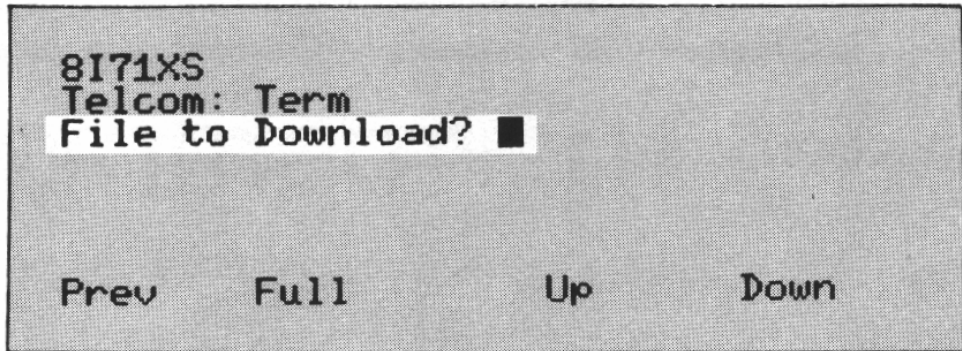

Fig. 9-6 Term's Download Request
**f-5 Down.** If you have established contact with another computer, you can store the incoming data into a .DO file by pressing the f-5 function key. As Figure 9-6 illustrates, you will be asked for a file name to assign to the information about to be received. A .DO extension will be added to whatever name you select. An inverted image of the word "Down" will appear at the bottom of the display, indicating that the download process is underway. Pressing the f-5 key again will terminate this operation and place you back in the normal TERM mode. All data received will be found in the newly created text file, provided that sufficient memory was available to contain it all. A "beep" would have notified you that memory space was inadequate.